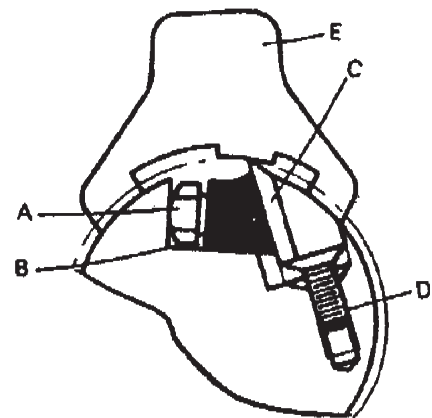

Figure 11. Knife Blade Gauge
1. Remove the top cover (326) from the machine by removing the bolts securing it.
2. *Please refer to Figure 11 when checking knife adjustment.* Position the knife Gauge (E) on the cutter head and knife blade as shown. The gauge must contact the knife blade and the cutter head at all three points shown. The blade is adjusted too low if there is a visible space between the blade edge and the gauge. The knife blade is too high when the gauge rocks from side to side on the cutter head when contacting the knife blade.
3. To adjust the blade setting, loosen the locking nuts (A) just enough to allow the blade (C) to move against the Lock Bar (B). To raise the knife blade, turn adjustment screw (D) counter-clockwise. To lower the knife blade, turn the adjustment screw clockwise and press down on the blade.